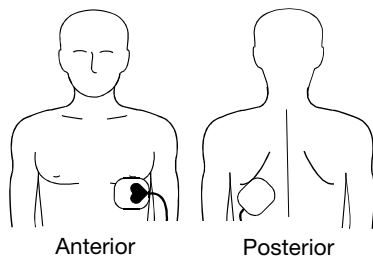

Figure 3-1 Anterior-Posterior Placement
- 1 Place either the ♥ or + therapy electrode over the left precordium as shown in Figure 3-1. The upper edge of the electrode should be below the nipple. Avoid placement over the nipple, the diaphragm, or the bony prominence of the sternum if possible.
- 2 Place the other electrode behind the heart in the infrascapular area as shown in Figure 3-1. For patient comfort, place the cable connection away from the spine. Do not place the electrode over the bony prominences of the spine or scapula.